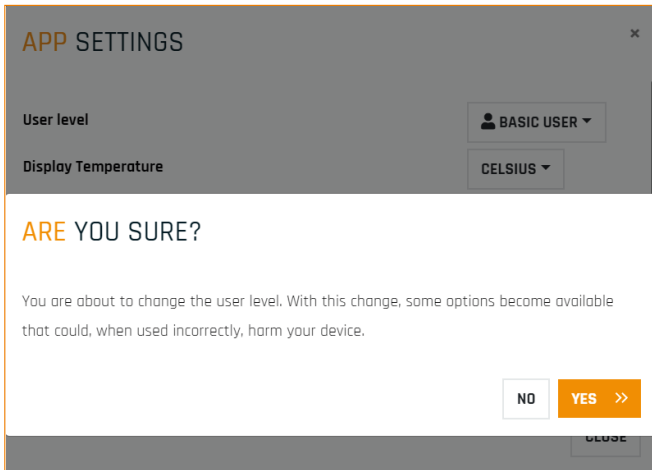

Figure 13. Confirm user level change
4. Navigate to the 'Details' page and make sure to change the battery node ID of the first battery to 11 (Figure 13 and 14)